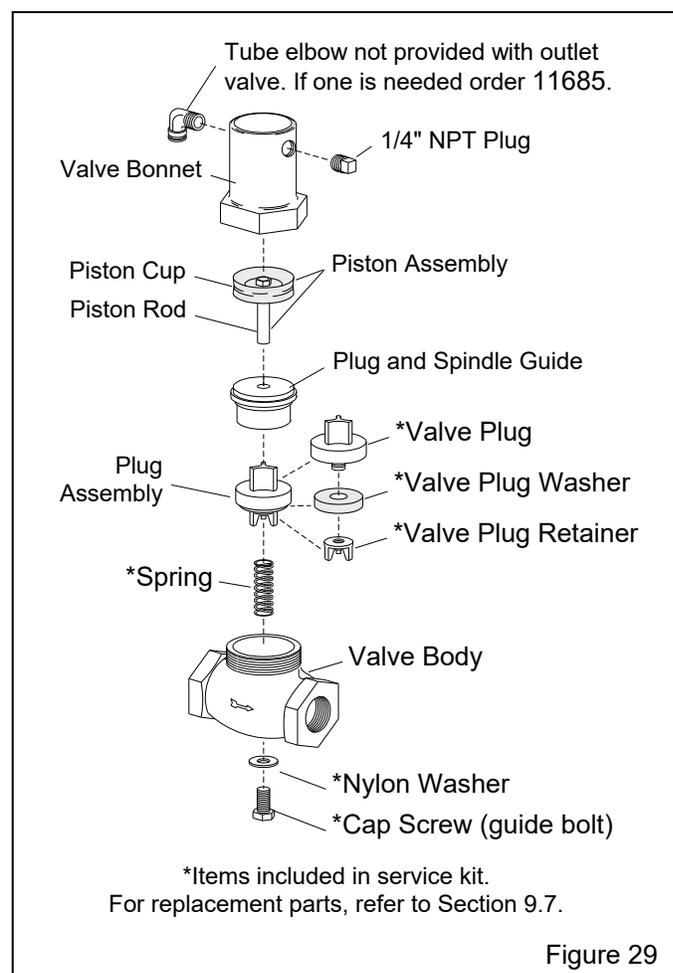

Figure 29
7.10 Servicing Piston Outlet Valve – Figure 29